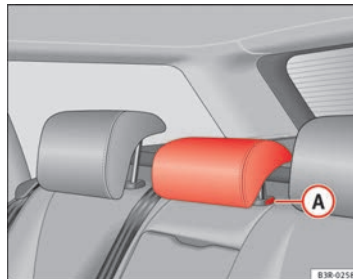

Fig. 112 Centre rear seat: Head restraints
- Press button **(A)** ⇒ Fig. 112 and lower the head restraint.
- Press button **(A)** ⇒ Fig. 112 and pull out the head restraint.